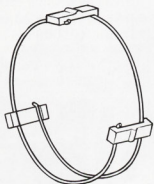

Fig. 9-20 Shifting Key Spring Installation X4359
a. Slide the bearing inner race (1), bearings (2), and the first gear (3).
b. Assemble the synchronizer units No.1, and No.2 by installing the two shifting key springs onto the hub, and placing the three shifting keys into the hub key slots. When installing the shifting key springs, the open ends of the springs should be kept at 120° apart as shown in figure 9-20. The spring tension on each key must be uniform.